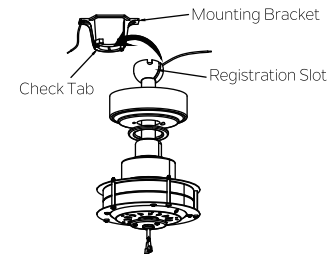

Fig. 9
Step 5. Now lift the motor body into position and place the hanger ball into the mounting bracket. Rotate until the "Check Tab" has dropped into the "Registration Slot " and seats firmly. (Fig. 9) The entire motor body should not rotate if this is done correctly.